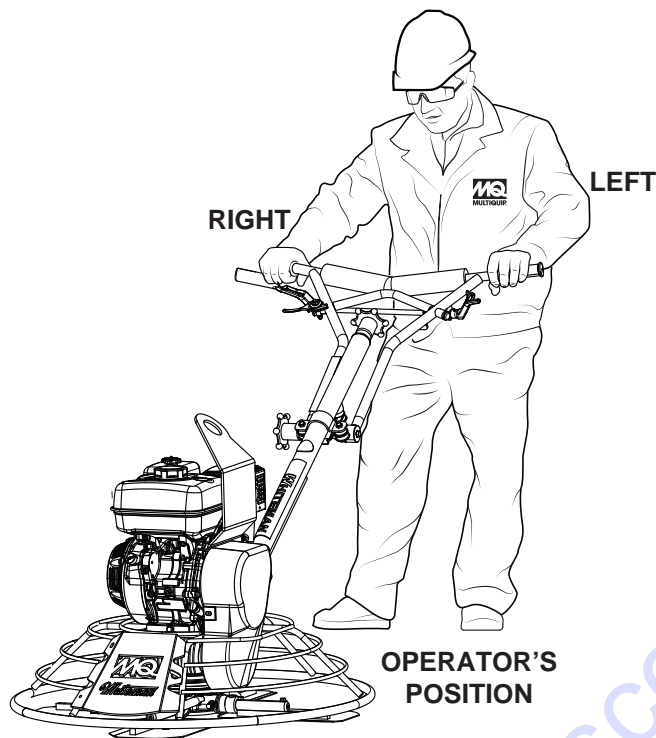

Figure 37. Operator's Position
1. With the engine running, stand in the operator's position (Figure 37) behind the trowel and grasp both hand grips securely.